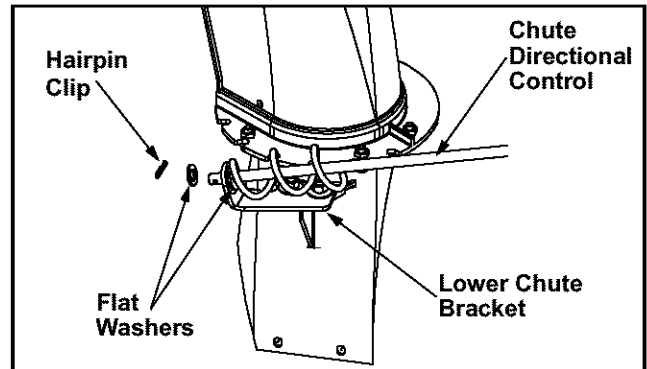

Figure 8
- Place one flat washer on the end of the chute directional control, then insert the end of the control into the hole in the plastic bushing in the lower chute bracket. Place another flat washer on the end of the chute directional control, and insert hairpin clip into hole in the end of control. See Figure 8.